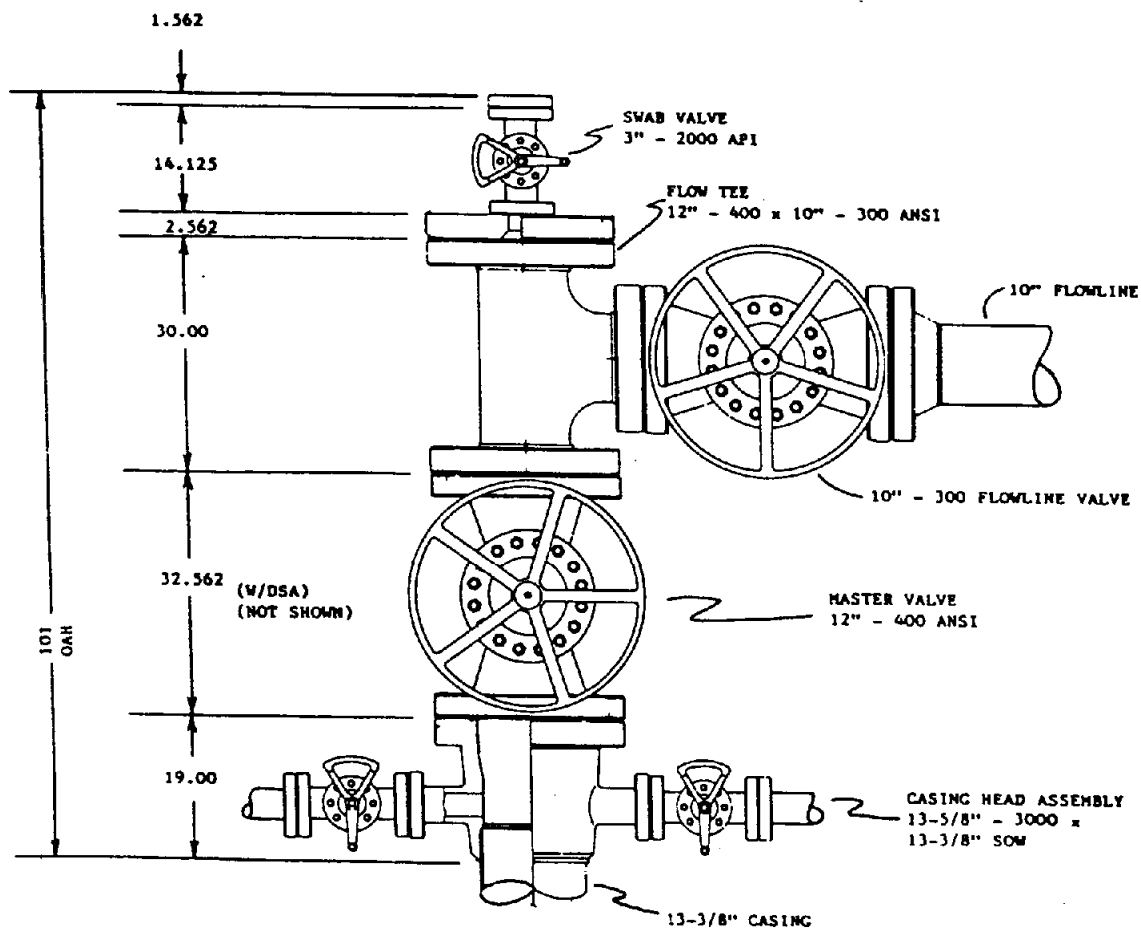

Figure 8. Wellhead Completion for Flowing Well
- a. Completion as a flowing (artesian) well. If during the testing phases the well flows with commercial temperatures and pressures, the well will be completed with a wellhead design as shown in Figure 8 and as specified in Table 1.
10. Lay down drill pipe and move off rig. Well completed as shown in Figure 8.